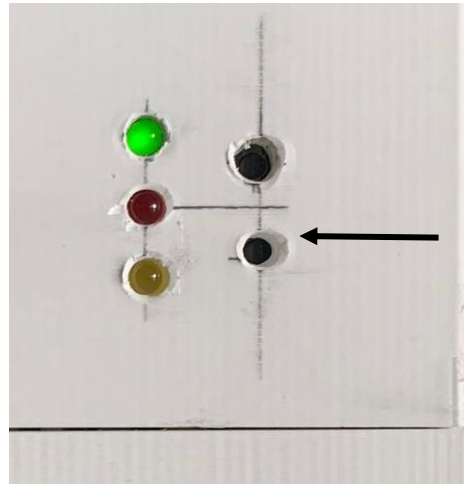

Figure 18 Feeder Device, reset button
- If the **Feeder Device** doesn't work and **none of the led's is turn on or blink**, then press the **RESET button**, Fig.18. If the **error remains**, then **pull out the power cable** of the **Feeder Device** and the **Central HUB** and put it back on. If the **error remains**, then report the error to a technical.